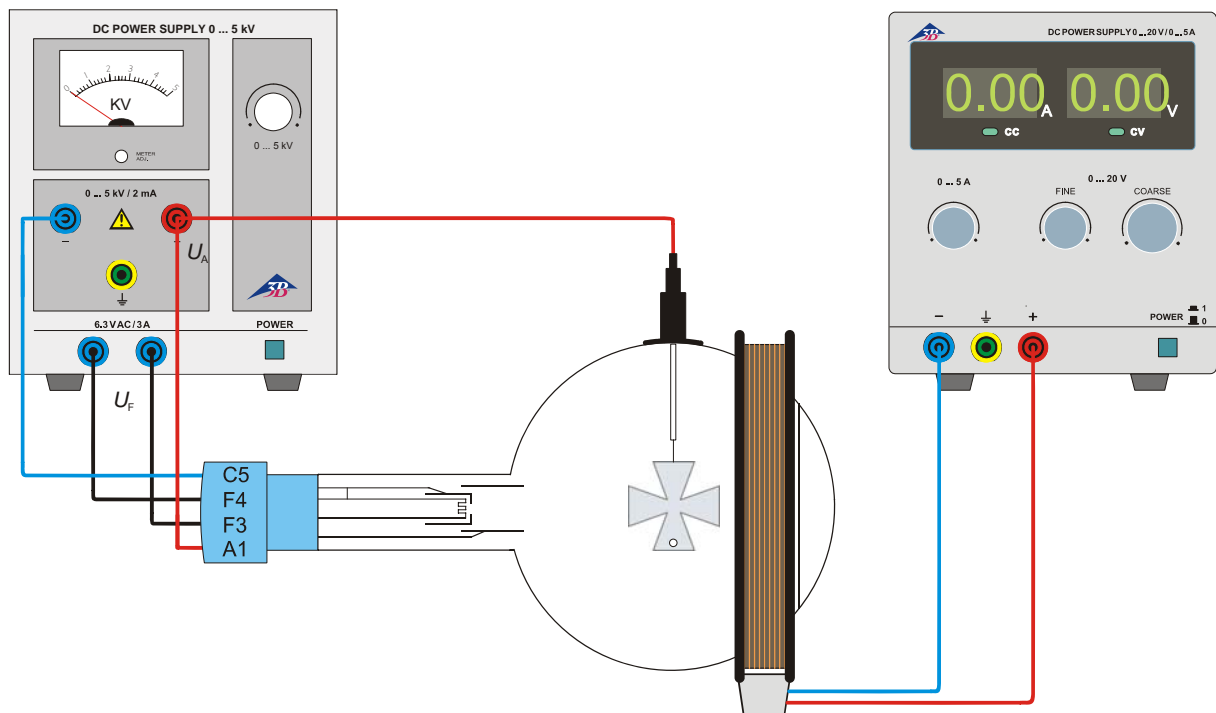

Fig.2 Introduction to electron optics
- Set up the experiment as in Fig. 2.